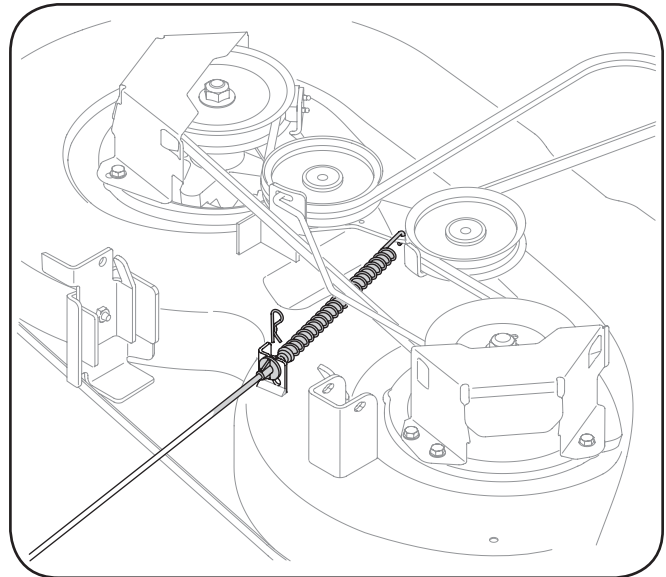

Figure 7-3
9. Carefully remove the PTO cable from the rear of the cutting deck by removing the hair pin clip which secures it. Remove the spring from the deck idler bracket. See Fig. 7-3.